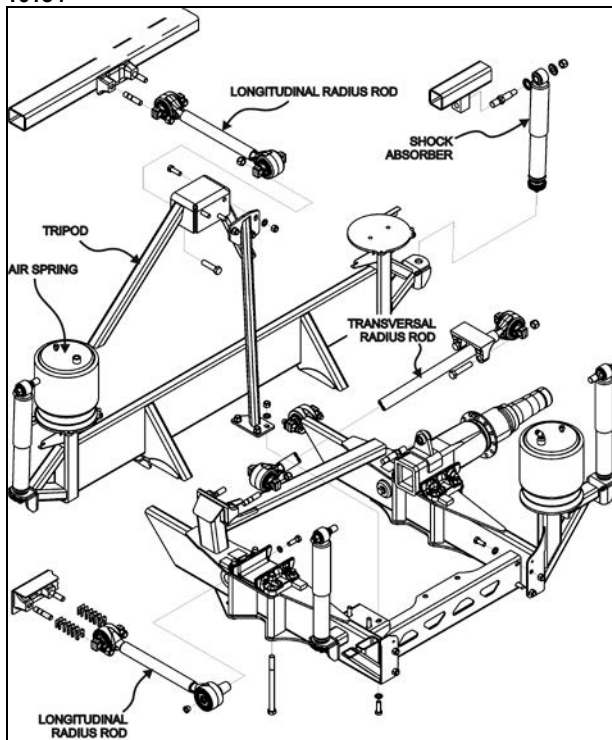

FIGURE 39: REAR UNDERFRAME SUSPENSION 16106A
- Loosen the clamp on the height control valve rubber coupling and bring it up or down (Fig. 39).